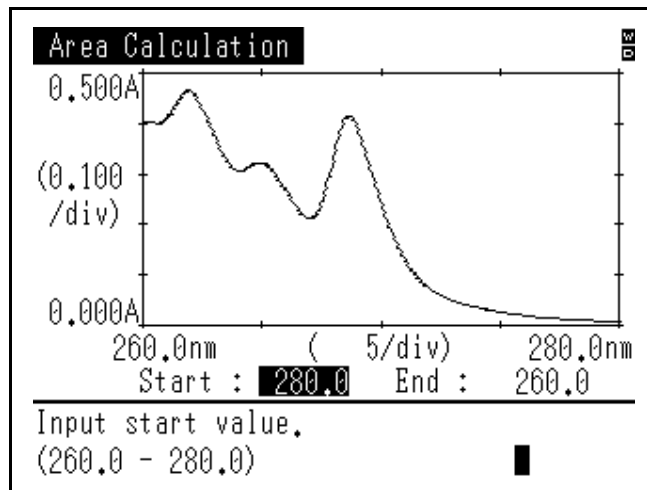

Fig. 13.25 Range Setting screen
Press the **4** [Area Calc.] key on the Processing Options screen (Fig. 13.1) to display the Range Setting screen (Fig. 13.25).
- 1 Press the   keys on the Range Setting screen (Fig. 13.25) to display cursor on the curve graph.